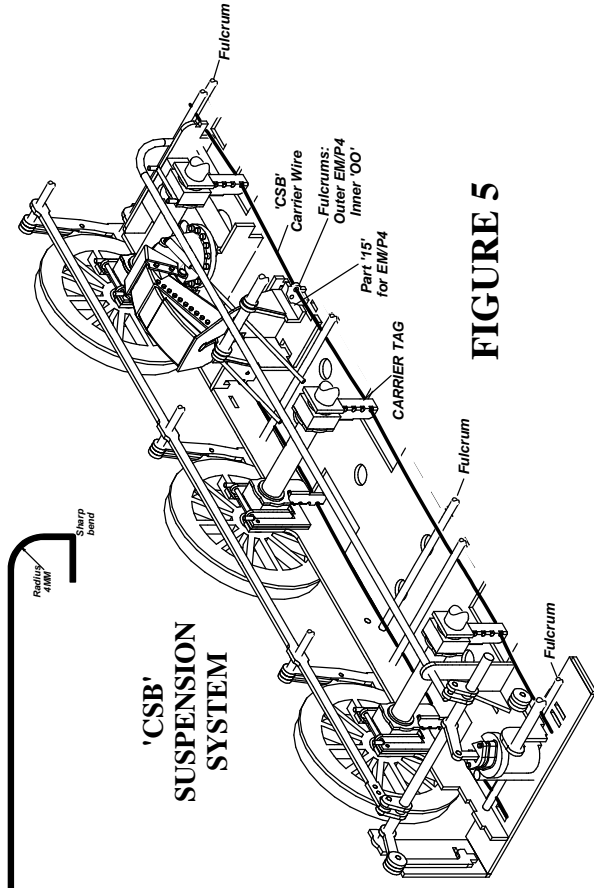

FIGURE 5
If you wish to use a **CSB** (Continuous Springy Beam) suspension system (this is illustrated in Figure 5) with this chassis then drill out the holes marked 'C' to accept your fulcrum anchors, which will be 0.7mm diameter wire. You'll also need to open out the appropriate holes in part 3 (see below) to accept your CSB wire, as shown in Figures 1 &5. During the assembly sequence, leave out the compensation beams and the rear axle pivot – instead, solder 'High Level Carrier Tags' to the rear of the square hornblock bearings, using the top hole in the tags to carry the 'CSB' wire when you come to assemble the wheelsets. For more information on CSBs go to <http://www.clag.org.uk/beam-annex3.html>
Bend the Water Scoop Resting Plate (3) to the correct angle, as shown in Figure 2. For OO chassis, remove the small circular CSB anchor boss (D in Fig. 1) and tidy up this edge, but leave the extended tabs near the bend in place. If you're going to use 'CSB' suspension, then you'll need to drill out the Fulcrum Holes in the plate to accommodate the CSB wires shown in Figure 5. Once you've sorted the part, slot it into its location and solder it in place. For 'OO' chassis, trim off the excess tabs, flush with the outer face of the chassis, as shown in Figure 1.
If you're fitting CSBs, the spring wires should be cut so their length is fractionally less than the distance between the inside faces of the bufferbeams - when the body is fitted, the bufferbeams prevent the wires from sliding out from under the outer fulcrums. Feed the wires through the top holes in the CSB carriers, making sure they pass under the fulcrums and through the holes in part 15 (see Fig.5).